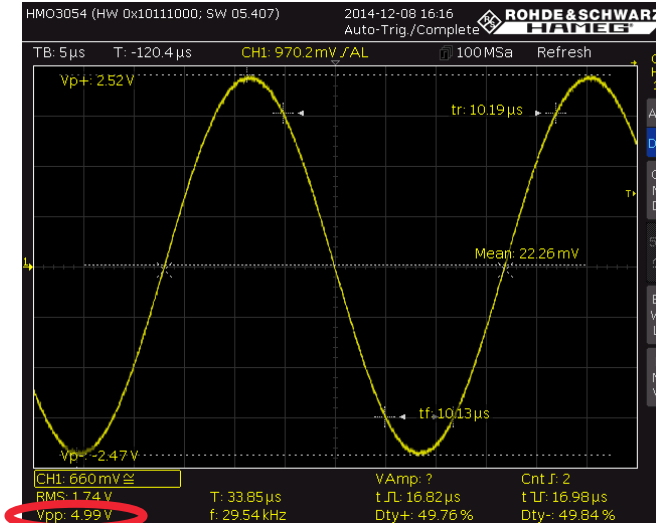

Fig. 2-40: Adjusted amplitude of  $U_{in}$  at the cutoff frequency.
- The higher frequency changes the matching conditions between the signal generator and the DUT, which in turn affects the input voltage. To correctly measure the cutoff frequency, the input voltage must therefore be adjusted on the HMF2550 to the voltage value measured at  $f=500$  Hz (Fig. 2-40).